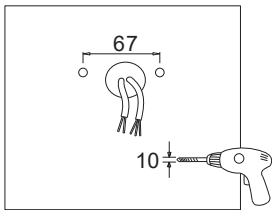

Figure 21
4. YOKE MOUNTING (YM)
Step 1: Drill holes on the wall as shown. (Figure 21)